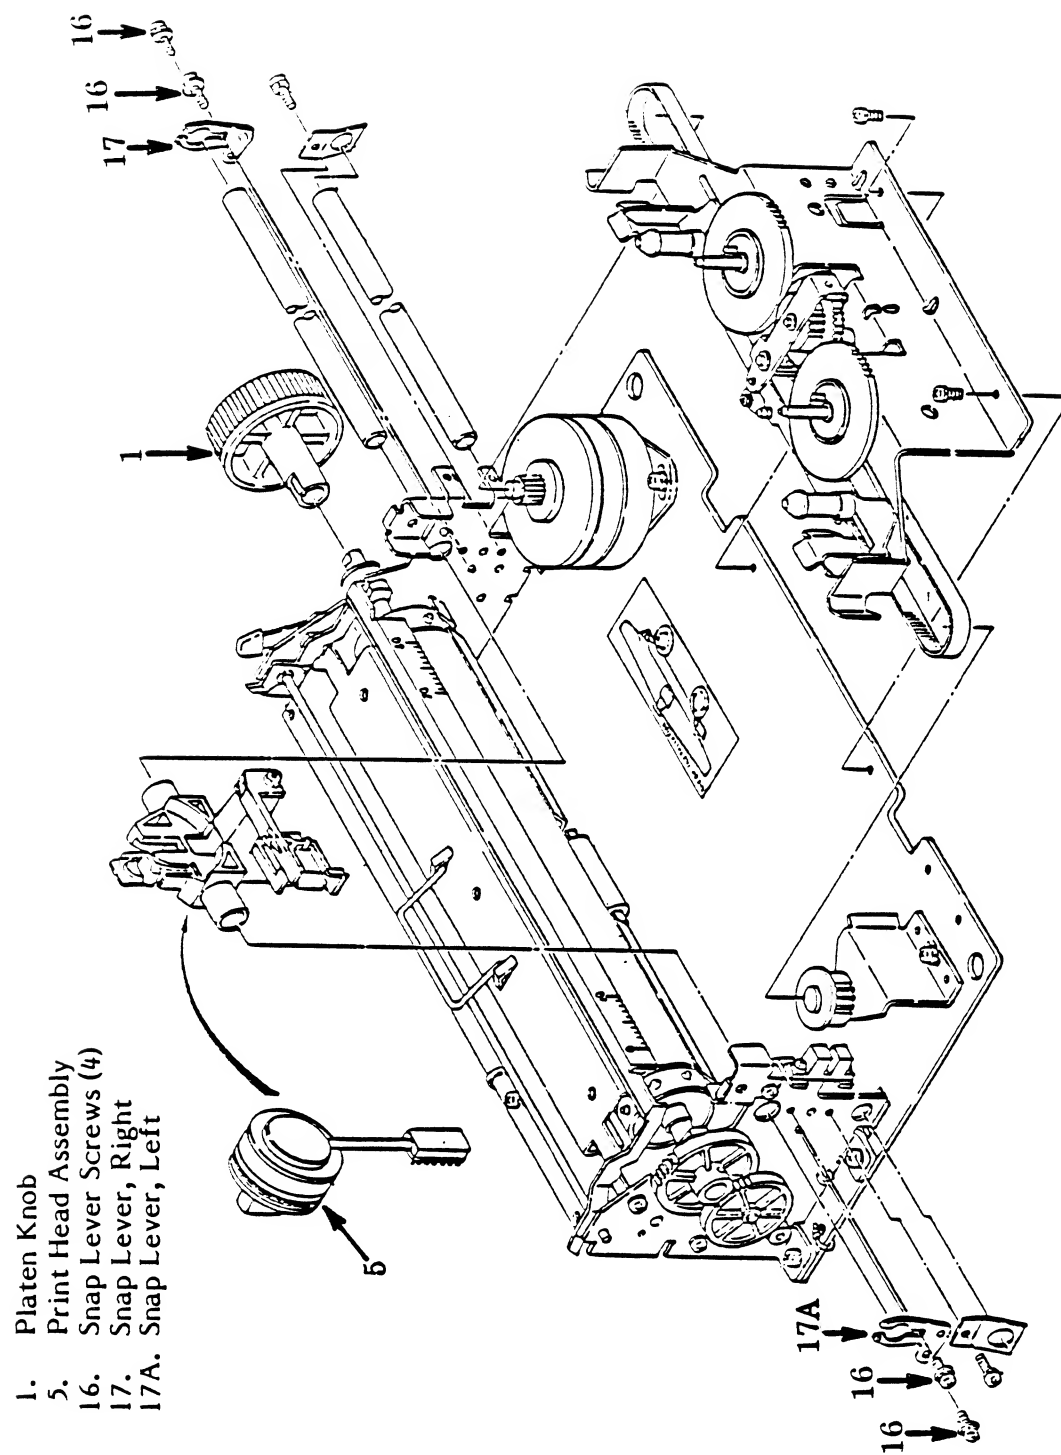

Figure 4-1. Printer Unit (R)
- Loosen the snap lever screws (see Figure 4-1, #16).
- Attach the snap levers (Figure 4-1, #17 and 17A) to the carriage shaft and then secure them to the side plates with the snap lever screws (Figure 4-1, #16).
- Push the platen knob (Figure 4-1, #1) on.